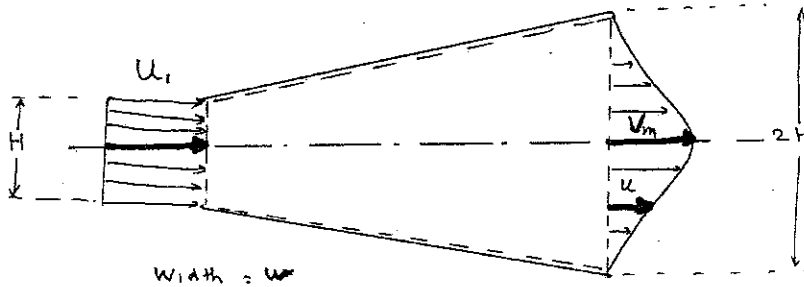

Fig. 3
3. Incompressible fluid flows steadily through a diverging channel of width  $w$ , as shown in Fig 3. At the inlet of height  $H$ , the flow is uniform with magnitude  $u_1$ . At the outlet, height  $2H$  and velocity profile is